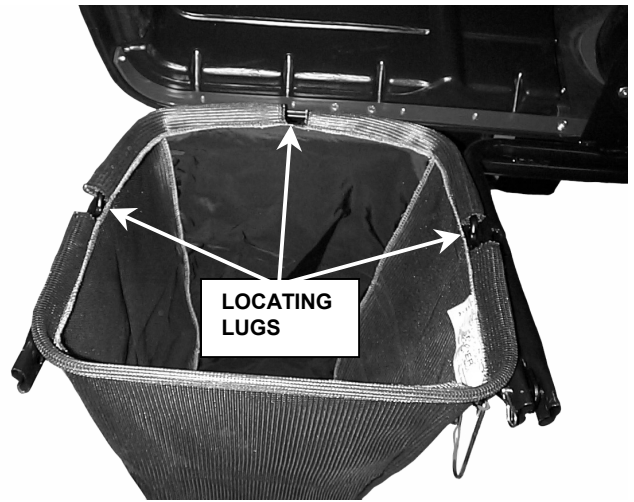
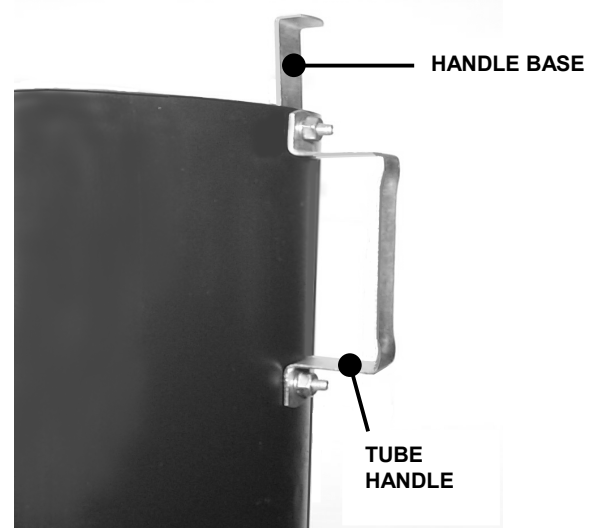

FIGURE 1.13
FIGURE 1.14
- A. Position bag so that the three locating lugs in the bag frame line up with the three locating slots in the catcher frame. See Figure 1.13.
- A. Attach Tube Handle and Handle Base to Tube before installing Tube to catcher. Insert (2) 1/4-20 x 3/4" Carriage bolts through Handle Base and holes in Tube as shown. See Figure 1.13. Place Tube Handle over bolts followed by 1/4" Internal Tooth lock washers and secure with (2) 1/4-20 hex nuts. Tighten securely. See Figure 1.14.